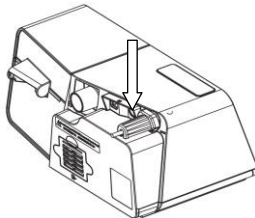

Fig. 12-7
(4) Press the power cord locker downward to fix power cord into the port, as shown in Fig. 12-7.